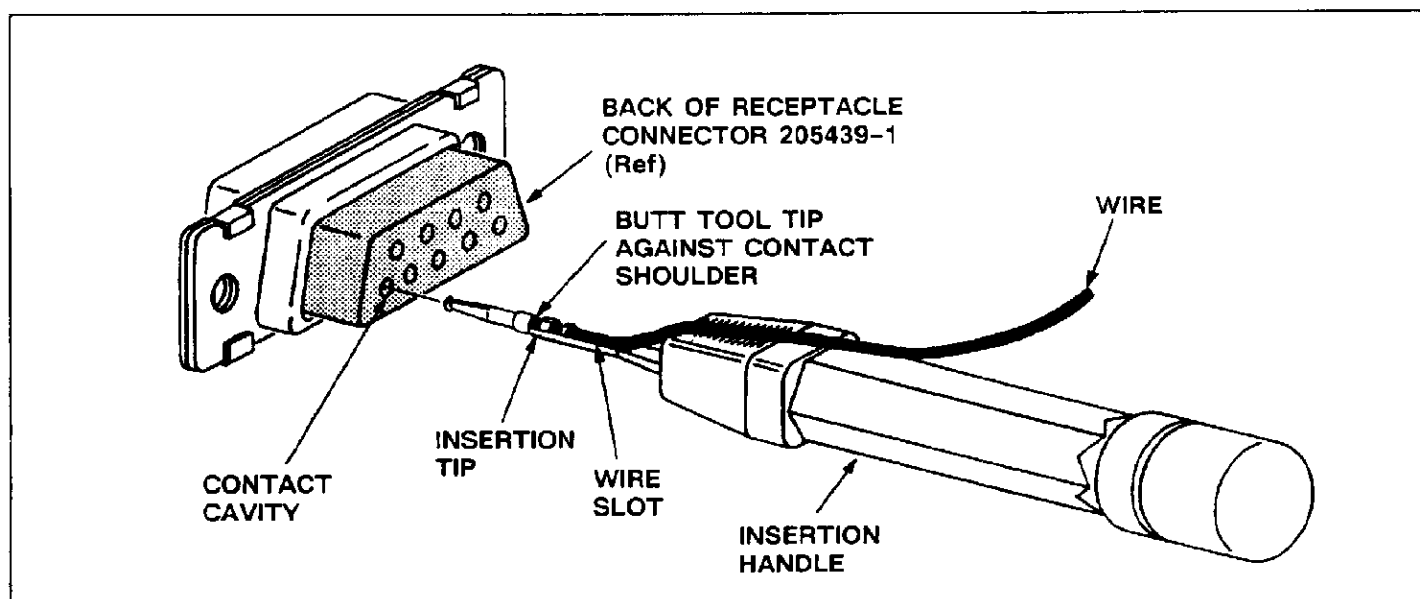

Fig. 3
A. Inserting A Wire Crimped Contact (Figure 3)